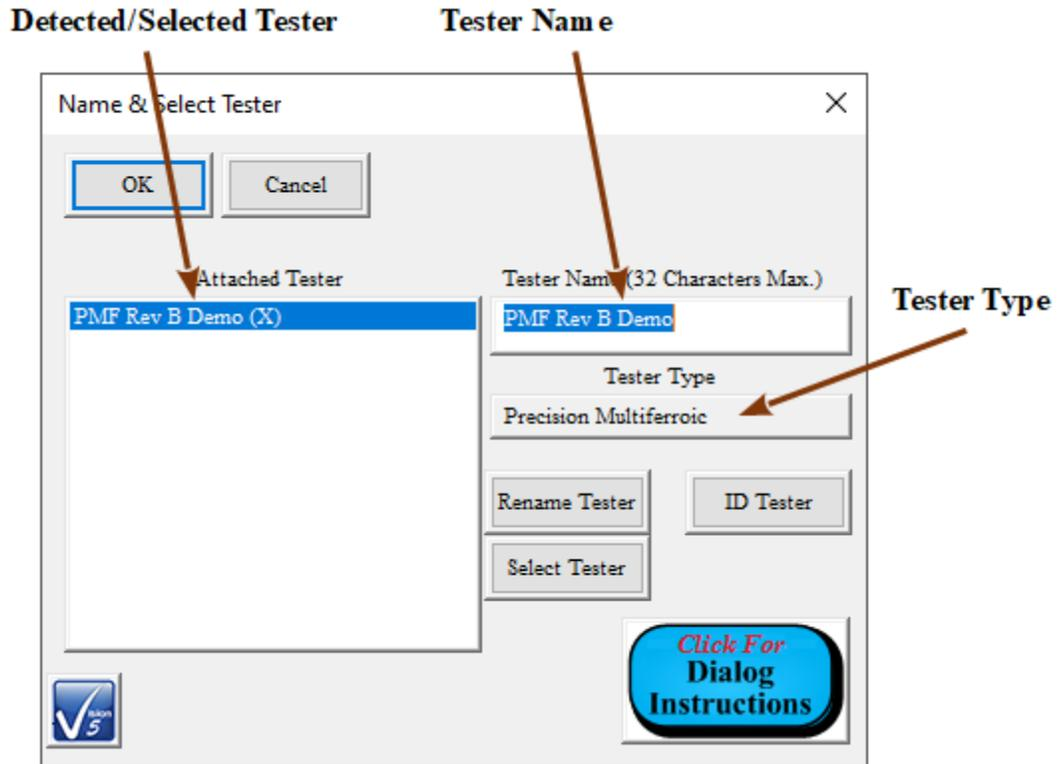

Figure 2 - Tester Selection Dialog with Appropriate Tester Selected.
Step 3: The detected tester will be highlighting it in *Attached Tester*. The current name appears in *Tester Name (32 Characters Max.)*. The Tester Type indicator will also be updated. (Note that the example in **Figure 2** uses a Precision Multiferroic tester.)